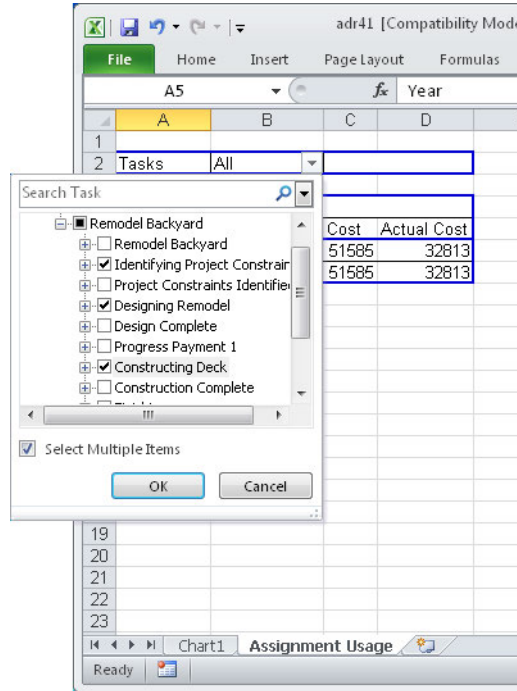

FIGURE 9-13 Select check boxes to include the items in the chart. Clear check boxes to omit the items.
- To select multiple items in the pivot table, choose the Select Multiple Items check box. Select the check boxes for items you want to include, as shown in Figure 9-13, and then click OK.